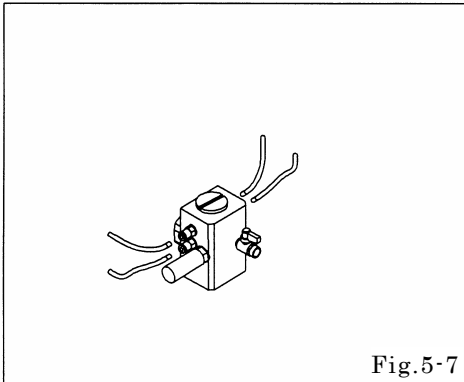

Fig.5-7
- Remove air tube from fitting [Fig.5-7]